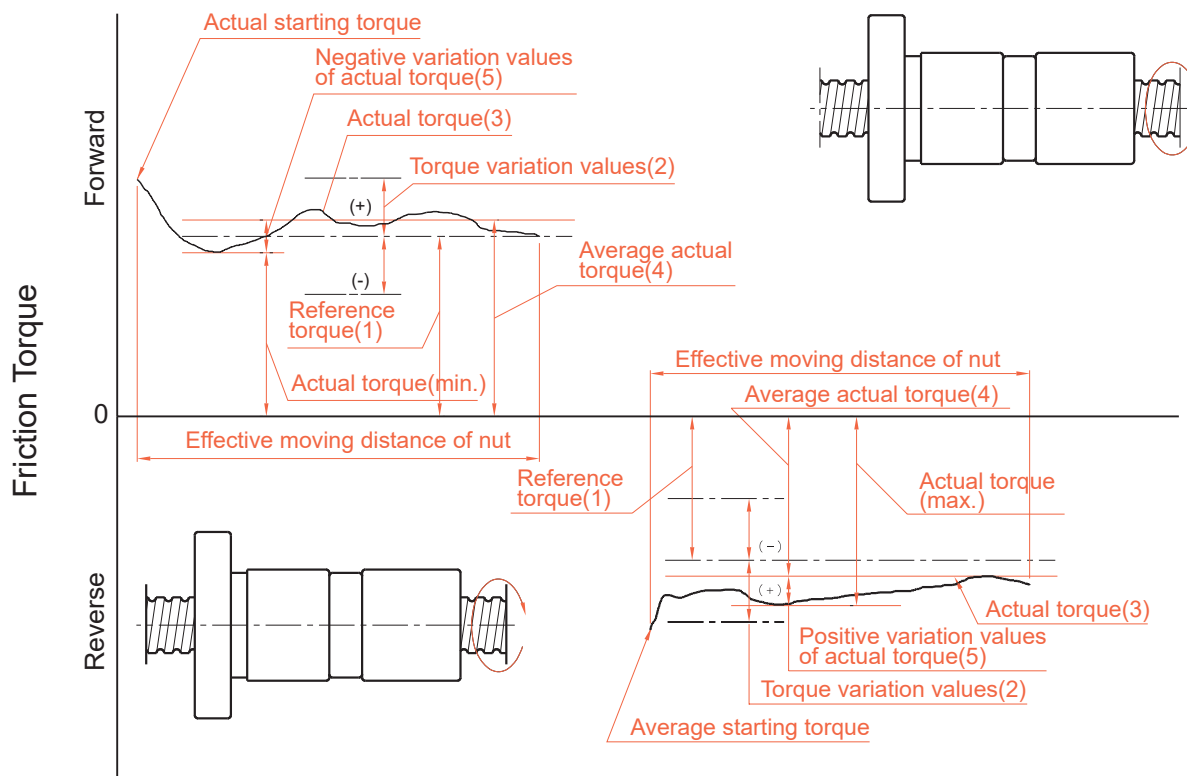

Fig 1.3.3 Descriptions of preload torque
As figure 1.3.3 shown in below, it specified all the type of preload torque generated by rotating a preloaded ball screw.
The targeted preload dynamic torque Fig 1.3.3-(1)
The variation values of the targeted preload torque-variation rates are specified generally based on JIS standards as indicated in Fig 1.3.3.